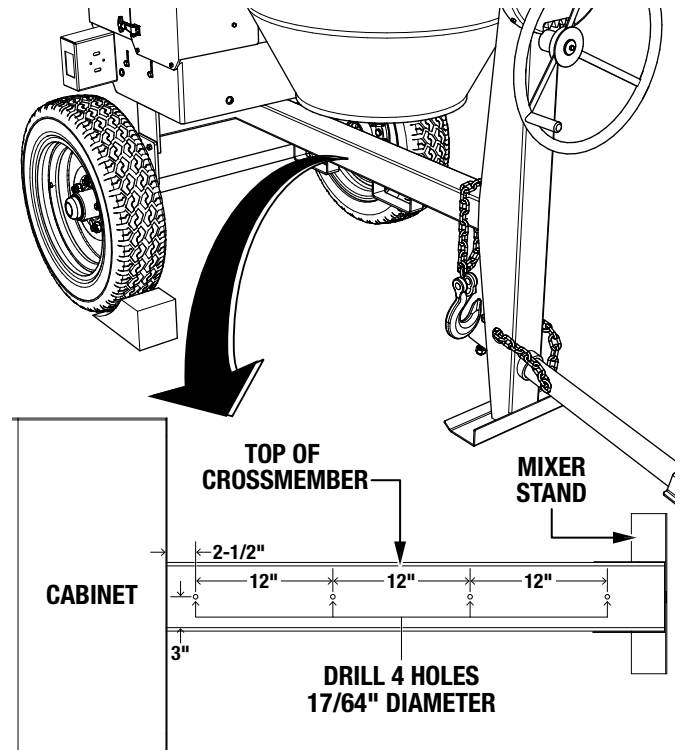

Figure 9. Drill Crossmember Holes
3. Mark and drill four 17/64-inch holes into the crossmember as shown in Figure 9.